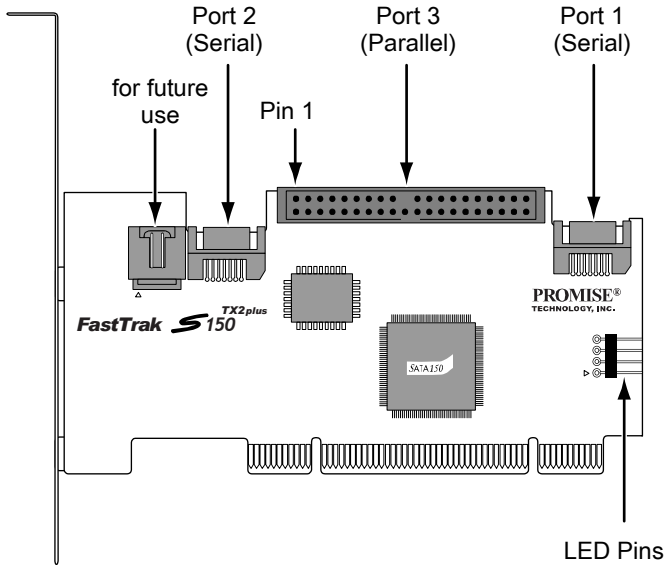

Figure 2. FastTrak S150 TX2plus card
4. Attach your system case's 2- or 4-pin LED cable to the LED connector on the FastTrak S150 TX2plus RAID card (see Figure 2, on page 8). Make sure that pin 1 on the connector is aligned with pin 1 of the cable.
4. Attach the blue cable connector to the Port 3 Parallel connector on the FastTrak S150 TX2plus controller card. The colored edge of the cable(s) indicates pin 1 (see Figure 2).